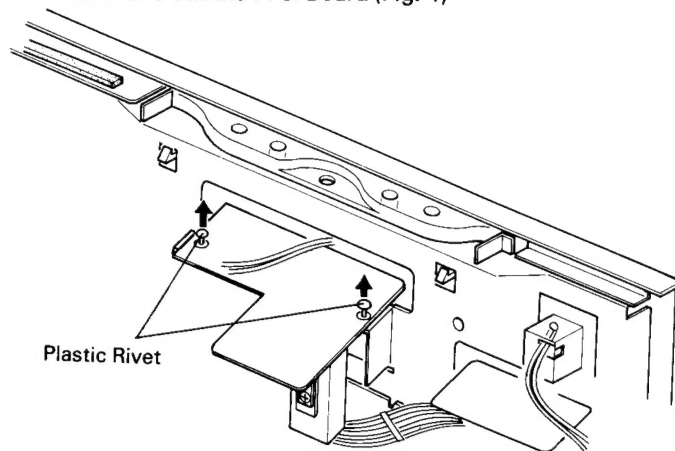

Fig. 4
5. Remove the plastic rivet bushes from the P. C. Board and take out the P. C. Board (Fig. 4)